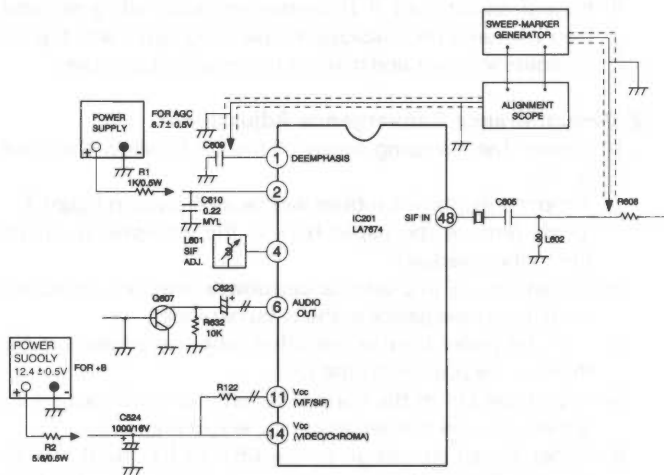

Figure 4
- 1) Connect the output of the sweep-marker generator as shown in figure 4.